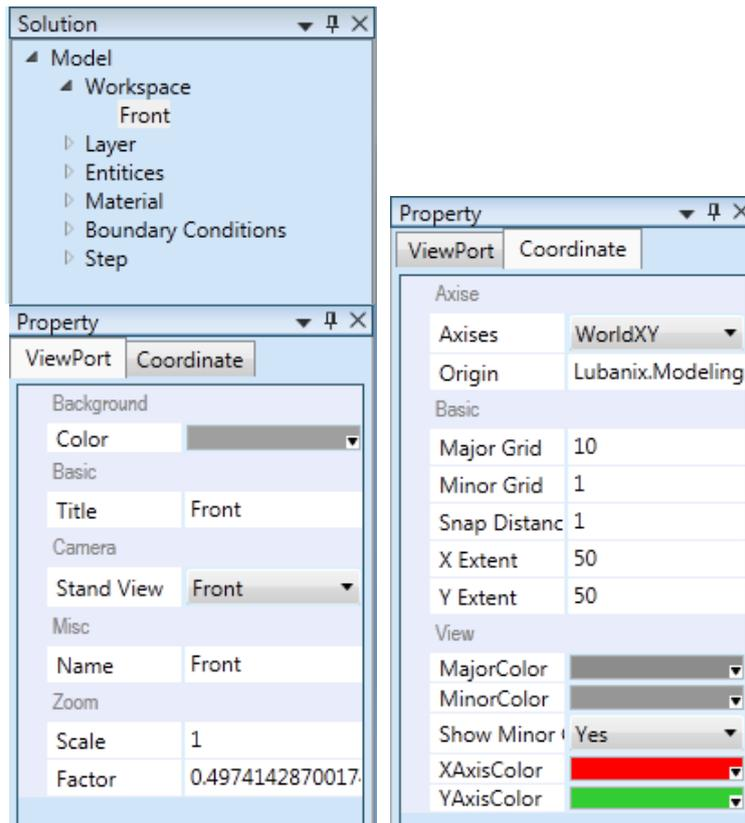

Figure 6. Adjustment of grids and working space.
- Adjust the properties of the **Front** by editing the values shown in **ViewPort** and **Coordinate** tabs of **Property** window (see Figure 6).